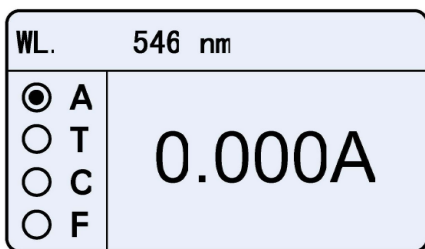

Fig. 4-1
- 1) Press  to choose «A» mode (Fig.4-1).